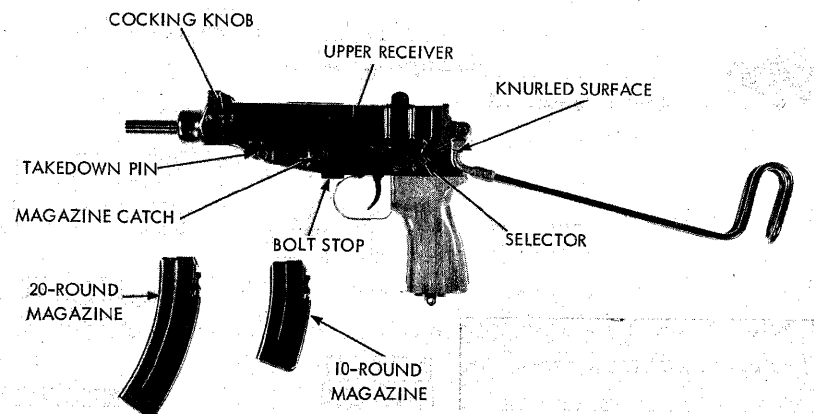
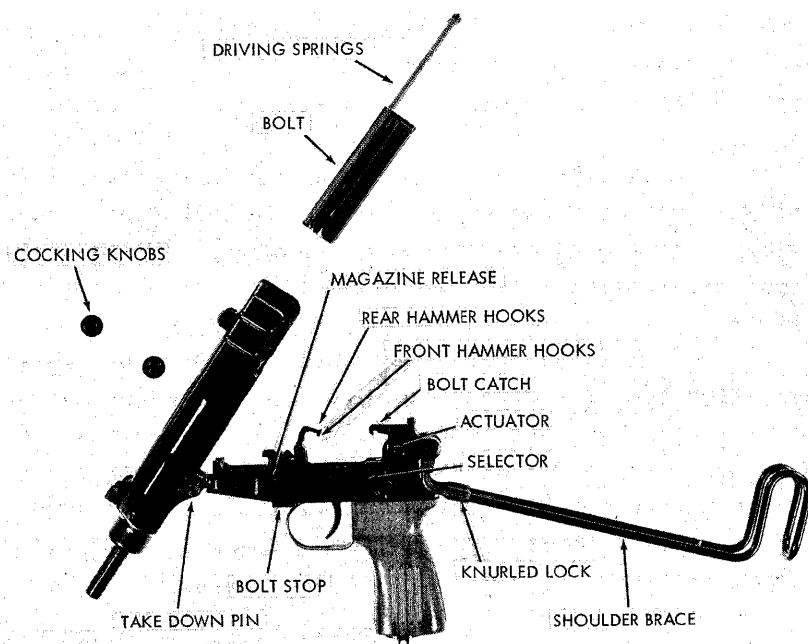

Figure 25. Czechoslovak Vz61 "Skorpion" machine pistol
Figure 26. Vz61 disassembled.
The Czechoslovak 7.65-mm Vzor 61 machine pistol (fig 25) Skorpion used by the Czechoslovak Army and Security Forces has also been offered for sale to other countries. This machine pistol, a blowback-operated, selective-fire weapon that uses 10- or 20-round box magazines, is equipped with a folding wire shoulder brace. The Skorpion, because of the mild recoil of its relatively weak 7.65-mm cartridge (sec VI) and the slow rate of fire due to a cyclic-rate reducer, is an effective, if underpowered, weapon.
b. Insure that the selector is not in its mid (0) position (safe); then insert a loaded magazine into the recess ahead of the trigger guard until the magazine catch (fig 25) engages the magazine. Using the thumb and forefinger, grasp the cocking knobs (fig 25), pull them fully to the rear, and release them. The bolt will return forward.
weapon automatically, or semiautomatically at longer ranges, best results are obtained by unfolding and using the shoulder brace. The shoulder brace is unfolded by pulling it out of engagement with the front sight guards and swinging it to the rear until the knurled lock snaps into place. The stock is folded by firmly pressing the knurled lock (fig 25) in, and swinging the brace forward into engagement with the front sight guards.
f. To clear the pistol, remove the magazine as in e above, retract the bolt fully and press up on the bolt stop (fig 25). The bolt will be held rearward by the bolt stop. Set the selector on "0" and examine the pistol to insure that no cartridges are present. Move the selector off "0", pull back on the cocking knobs slightly, and release them. Press the trigger, reset the selector to "0", and insert the magazine.
(1) Extend the shoulder brace (para 39c). Clear the pistol (para 39f), but do not insert the magazine, or set the selector at "0".
(2) Pull the takedown pin (fig 25) out to the left as far as possible; pull the upper receiver unit forward about three-sixteenths of an inch, and then swing the barrel down (fig 26).
(3) Retract the bolt fully to the rear and pull the cocking knobs (fig 26) out to the sides. Pull the bolt and the driving springs out of the receiver.
b. If the selector is set for semiautomatic fire, as the hammer rotates the rear hammer hooks (fig 26) force the sear rearward against its spring. The bolt returns forward under the force of the driving spring and loads a cartridge from the magazine into the chamber. The sear holds the hammer cocked by means of the rear hammer hooks, but when the trigger is released, the sear swings rearward and releases the hammer. The hammer, under force of its spring, starts to swing forward, but is caught by the trigger sear, which catches the front hammer hooks (fig 26). If the trigger is pressed, another shot will be fired, and this action will be repeated.
d. As the bolt completes its rearward stroke, it strikes the actuator (figs 26 and 27); this causes the actuator to pivot on its pin. Two actions then occur: